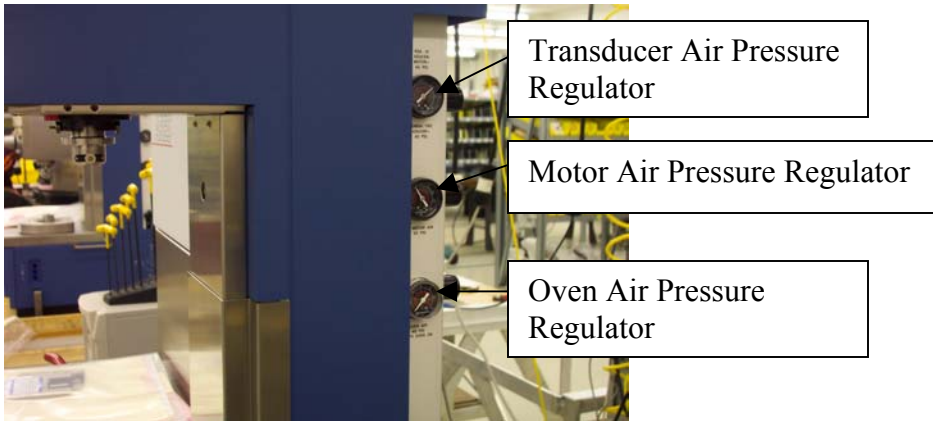

Figure 1
- 1.) Clean air should be flowing through the instrument with the appropriate PRESSURE as indicated on the right hand side of the instrument (Figure 1).